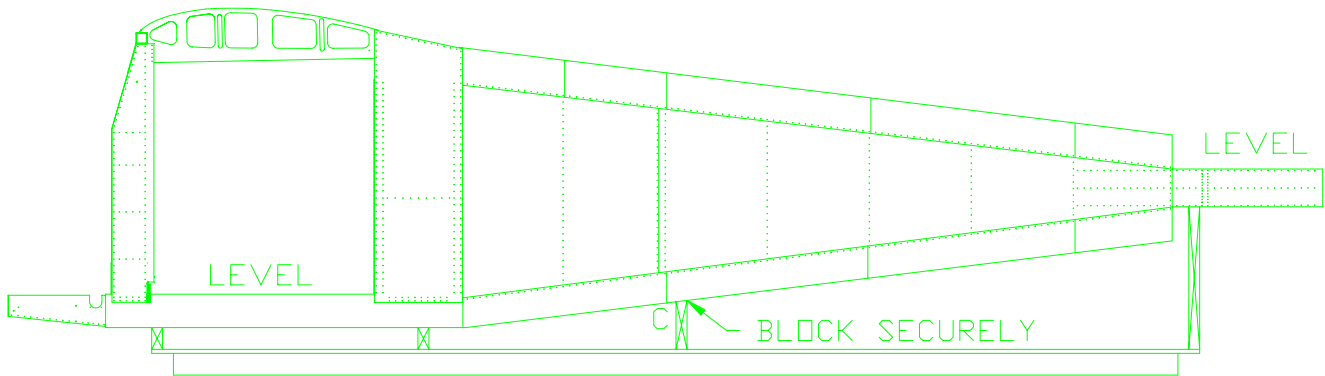

FIGURE 10
55) Block up the cone section just behind bulkhead "C". Figure 10